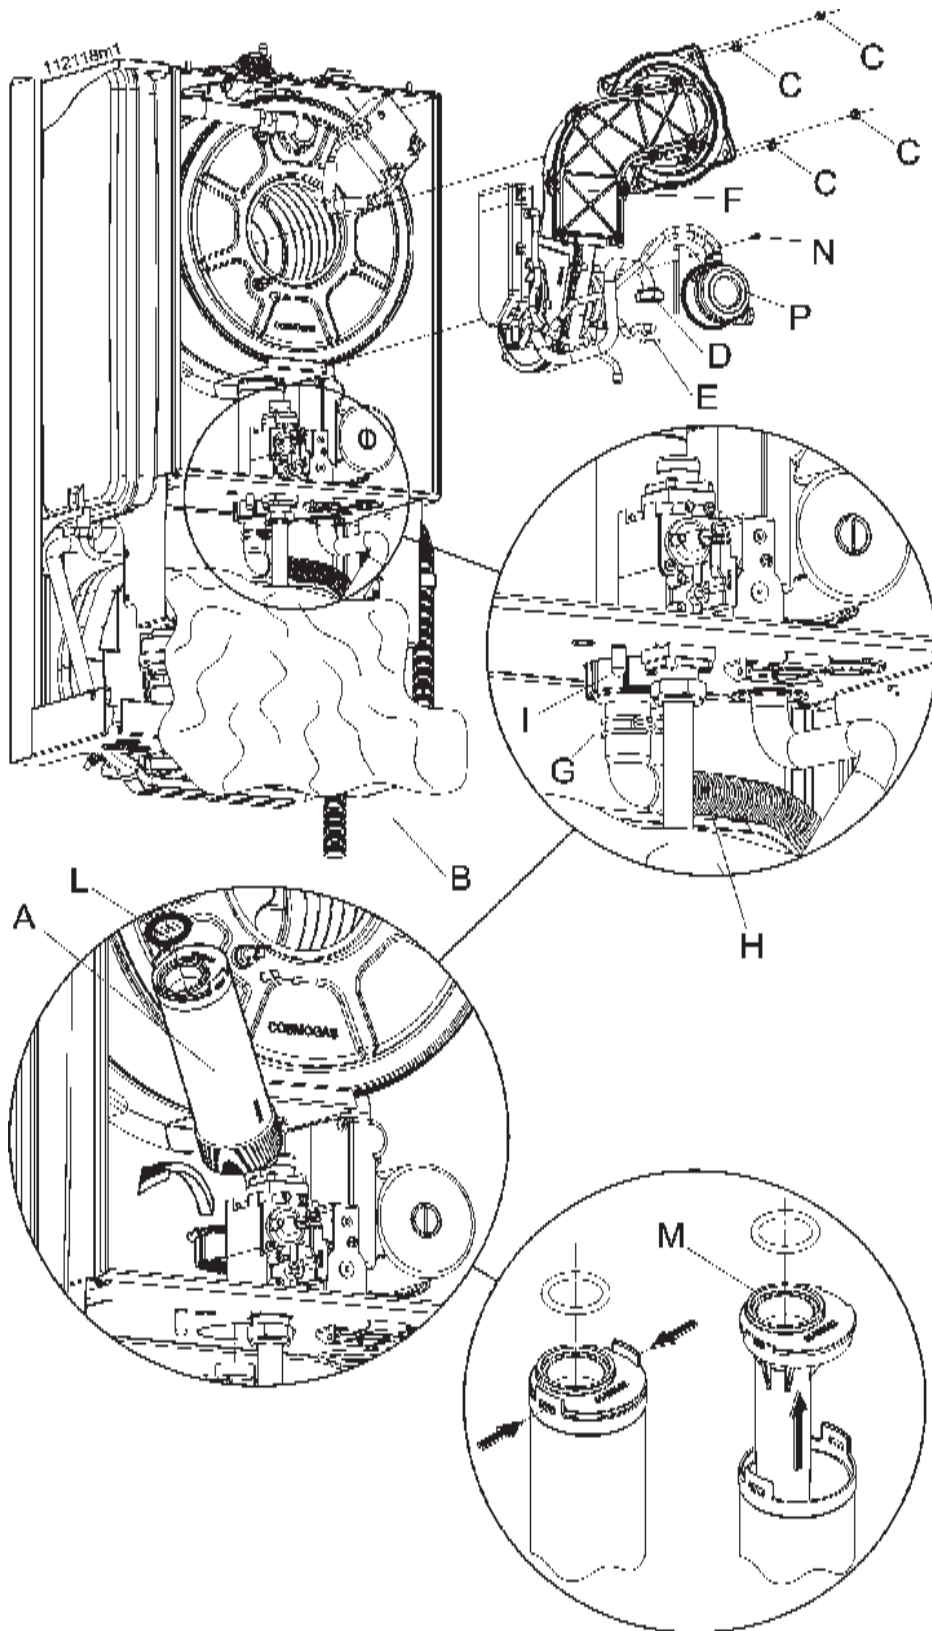

Figure 48 - Removing the condensing trap
- unscrew nut "D" from the gas valve (taking care not to loose gasket "E" in figure 48);
The condensate trap must be cleaned every year. Follow the steps below to properly clean the condensate trap and its associated components while referring to figure 48: